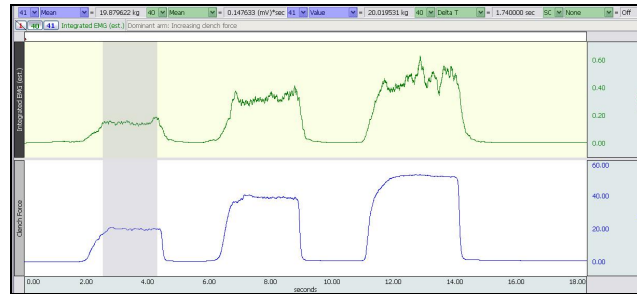

Fig. 2.17 Plateau of first clench selected
4. Use the **I-Beam** cursor to select an area on the plateau phase of the first clench (Fig. 2.17).